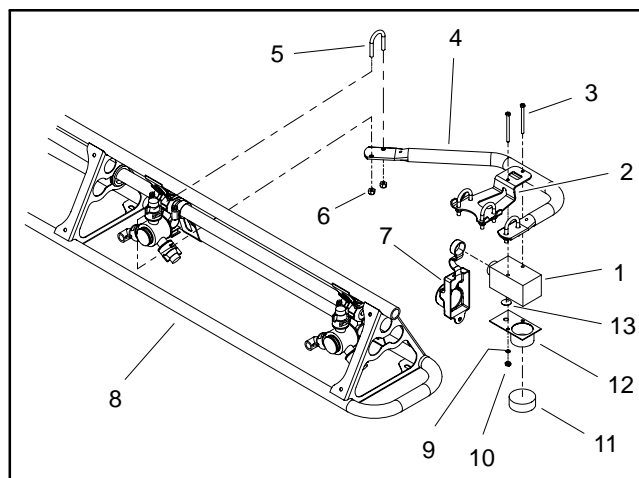

Figure 34
Two (2) identical sonic sensors are used in the Sonic Boom System. The sensors are mounted to the spray booms (Fig. 34). During sprayer operation with the sonic mode switch in the automatic position, the sonic sensors will provide inputs for the electronic control unit (ECU) to keep the booms at a constant distance from the ground.